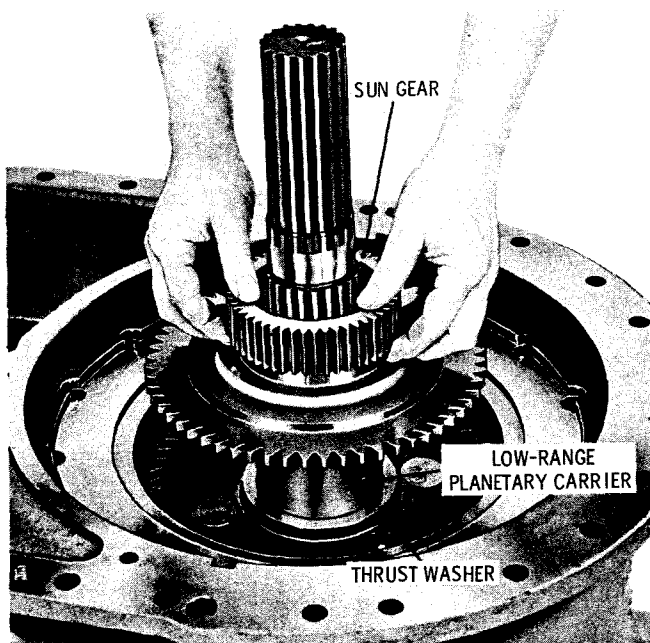

Fig. 5-64. Removing reverse-range sun gear
(3) Remove the reverse-range sun gear from the hub of the low-range planetary carrier (fig. 5-64). Remove the bronze thrust washer.